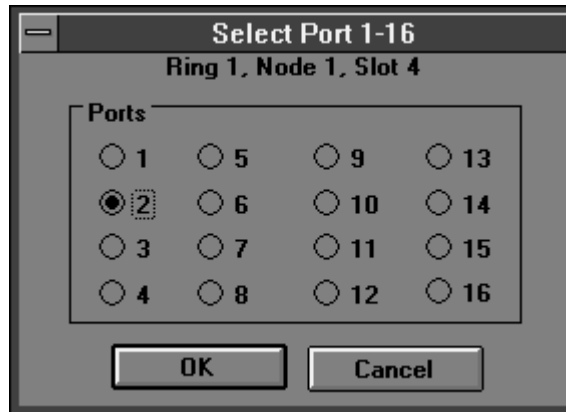

Figure 3-23. Port Selection
2. Select **Configure** from the Tools menu or click on the Configure icon. The port configuration screen for your selected section appears. This screen reappears after each port configuration. Select **Cancel** when port configuration is complete. Refer to Figure 3-23 for port selection.